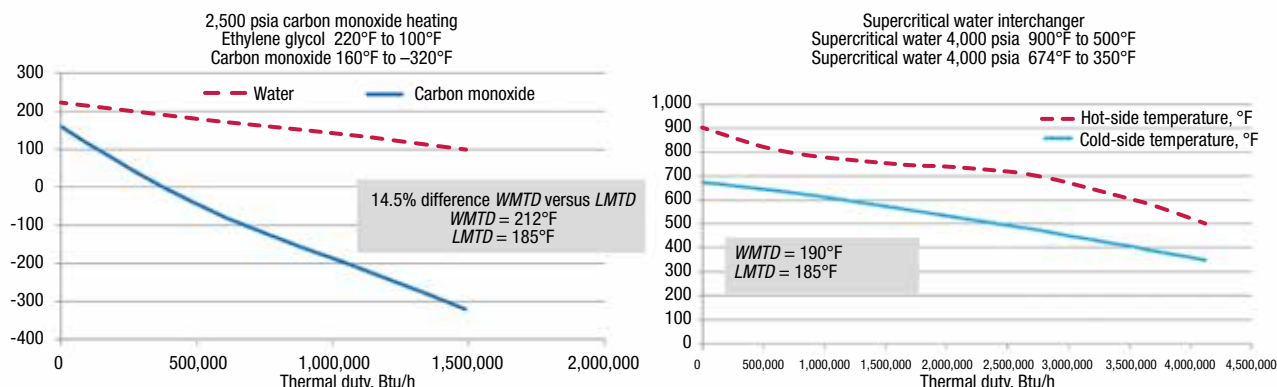

FIGURE 4. Shown here are two examples of non-linear behavior of temperature versus thermal duty, and the resulting values calculated for WMTD and LMTD
FIGURE 4. This graphs shows the normalized heat-flux profile. This is a particular normalized heat flux (curve) for a particular set of factors and sampled at 21 elevations (points). In this example, the maximum heat flux occurs just below the mid-point of the heater elevation at about 47%
Consider the normalized heat flux (ϕ) in the furnace of an ethylene reactor as a function of normalized elevation in the heater (Figure 4).
6. This is so because to minimize the sum of the squares, we set the partial derivative to zero with respect to each coefficient $\partial/(\partial a_i) \sum e^2 = 0 = \partial/(\partial a_i) \sum (y - \hat{y})^2$. Since only \hat{y} has adjustable parameters, this reduces to $\sum (\partial \hat{y} / \partial a_i) = \sum \hat{y} (\partial \hat{y} / \partial a_i)$, which for any form of Equation (7) may be expressed in matrix form as (8a).
9. In this particular case, a cubic polynomial is sufficient to represent the heat flux curve of Figure 4. There is nothing magic about using a cubic polynomial. We may use higher- or lower-order polynomials in one, two, or three dimensions, as fit the occasion. However, in all cases, we use the respective discrete form of the Legendre polynomial.
Two additional examples comparing *WMTD* and *LMTD* are shown in Figure 4, which reinforces the risk associated with using the linear *LMTD* calculation and how the *WMTD* calculation yields a different number. The key take-away here is to plot the duty versus temperature and perform a segmented *WMTD* calculation to get it correct.